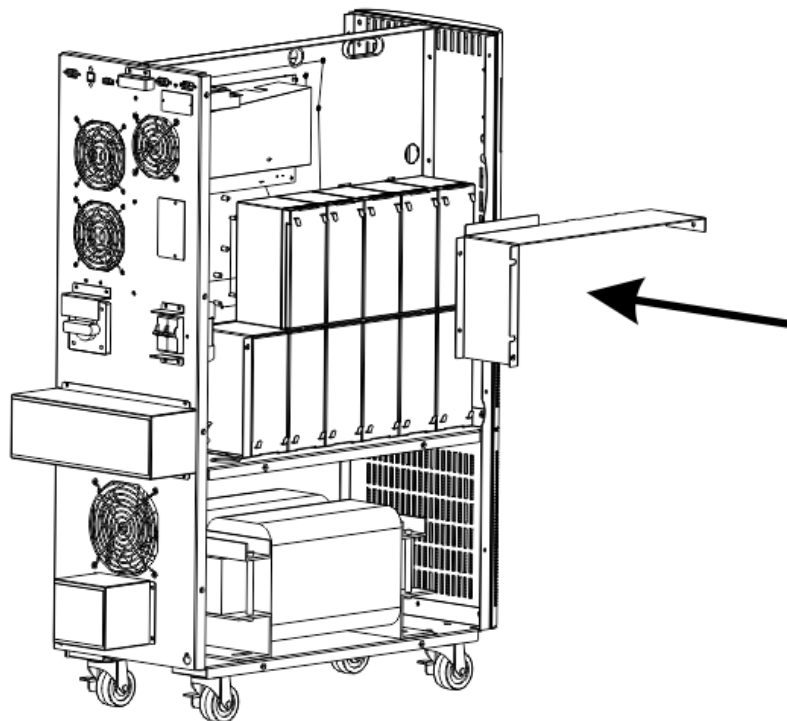

FIG. 10
21. Install the battery retaining bracket on the second row of batteries (FIG. 10)